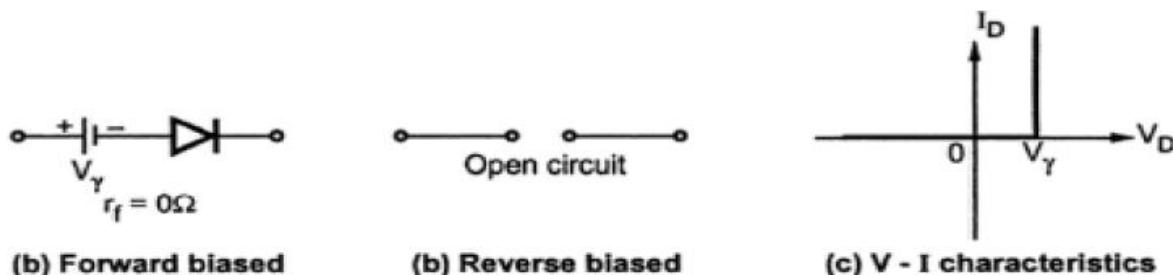

Fig. 1.13 Linear piecewise model of diode when  $r_f = 0$
- In such approximation, the diode **forward resistance is neglected** and the diode is assumed to conduct instantaneously when applied forward biased voltage  $V_D$  is equal to cut-in voltage  $V_Y$  and is shown in the fig. 1.13 (a).
- When the diode is in reverse biased condition i.e  $V_D < 0$ , the diode does not conduct at all and is shown in the Fig. 1.13 (b).
- As the diode conducts at  $V_D=V_Y$ , the V-I characteristics with straight lines is as shown in the Fig. 1.13 (c).